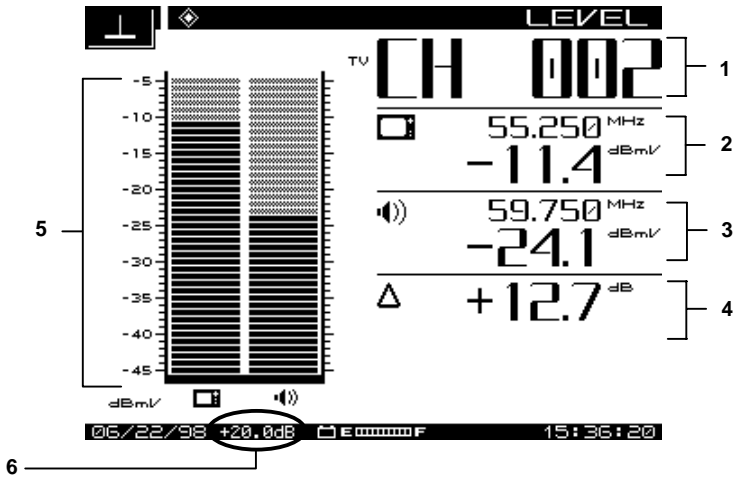

Fig. 6-1 The LEVEL Measurement Mode Screen
- **Tune by channel:** When you press the **CHAN** key on the keypad, the channel number and label appear at the top of the display (see Fig. 6-1). Use the left and right diamond keys to decrement and increment the channel number. You can also enter the channel number by using the numeric keys, followed by **CHAN**.
The following information is displayed in the Level measurement mode screen (numbers correspond to callouts in Fig. 6-1):